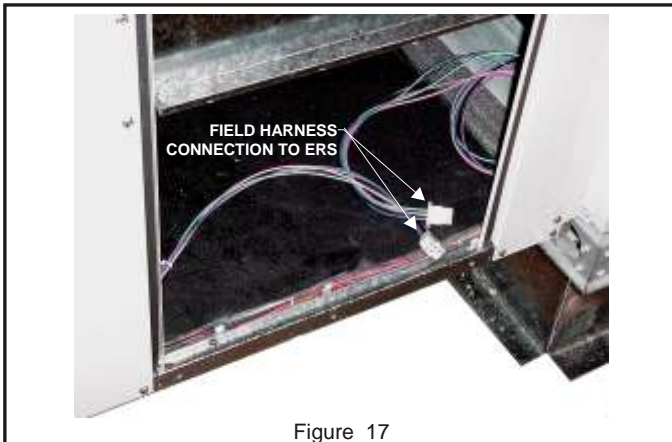
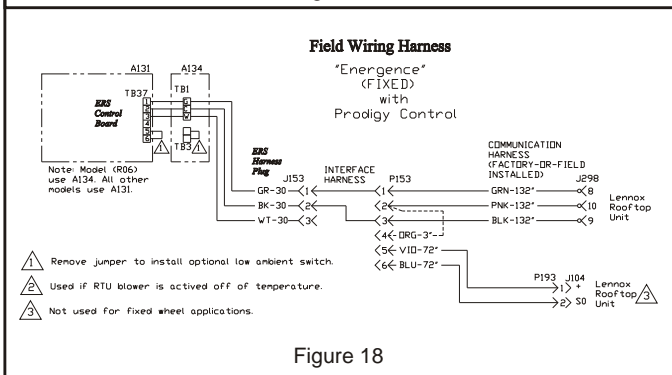

Figure 17
Figure 18
11. Remove the control access panel and locate the 3-pin connector P153 wiring harness that was previously routed into the return air of the rooftop unit. Plug the harness connector P153 into the connector J153 located at the bottom of the access door inside the ERS. See Figure 17 and Figure 18.